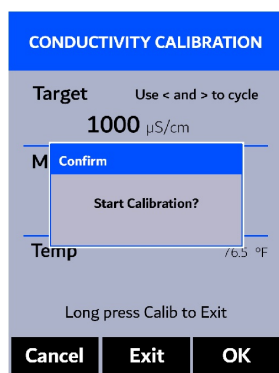

Figure 19.
8. The display updates as shown in Figure 19 and the user can choose one of three options: